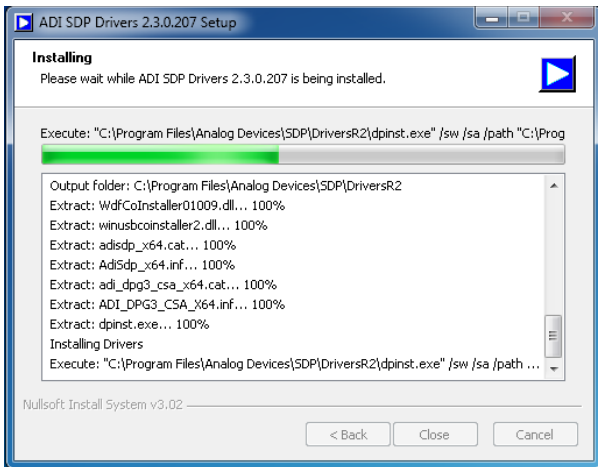

Figure 14. Installing
4. The installation begins, and a progress bar shown in Figure 14 is displayed.